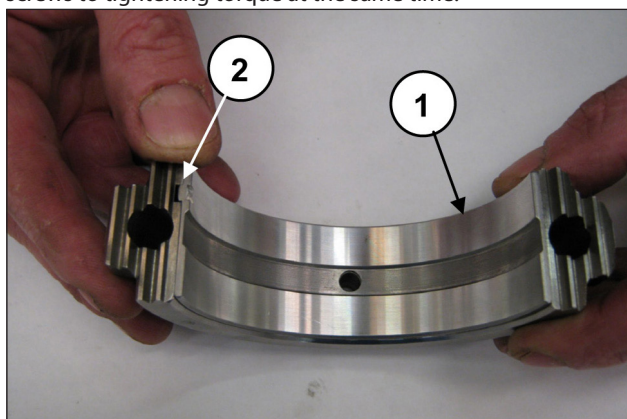
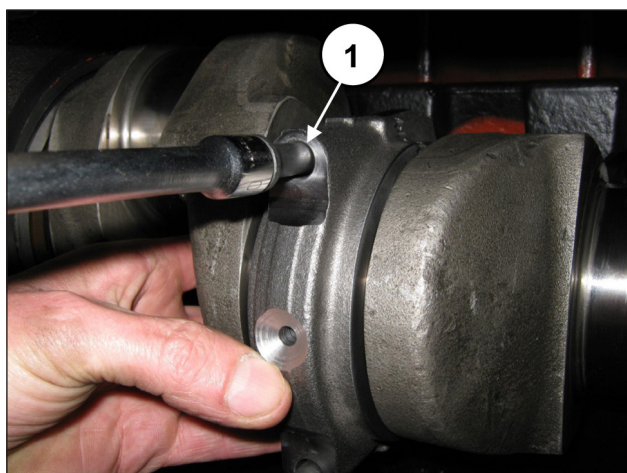

Fig. 69
Fig. 70
Apply the lower half-bearings to the caps (pos. ①, Fig. 69) ensuring that the half-bearing reference notches are positioned in their housing on the cap (pos. ②, Fig. 69). Fasten the caps to the conrods by means of M10x1.5x80 screws (pos. ③, Fig. 70).